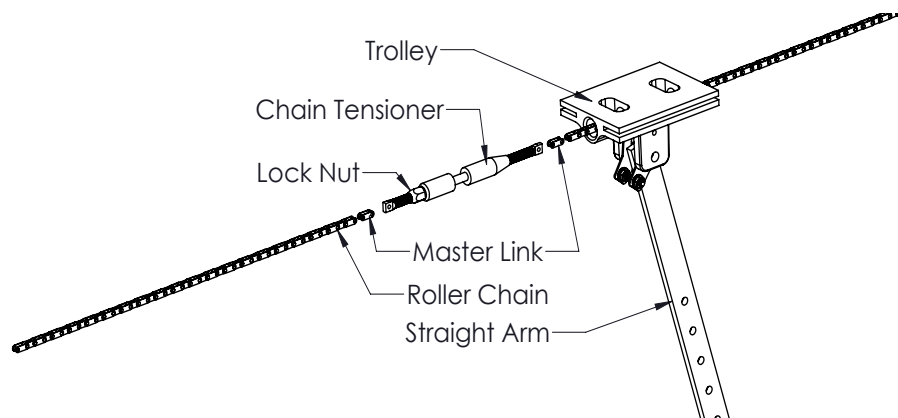

FIGURE 2
4. Disengage the chain tensioner from the trolley using the emergency disconnect and slide the trolley out of the way (Figure 2).